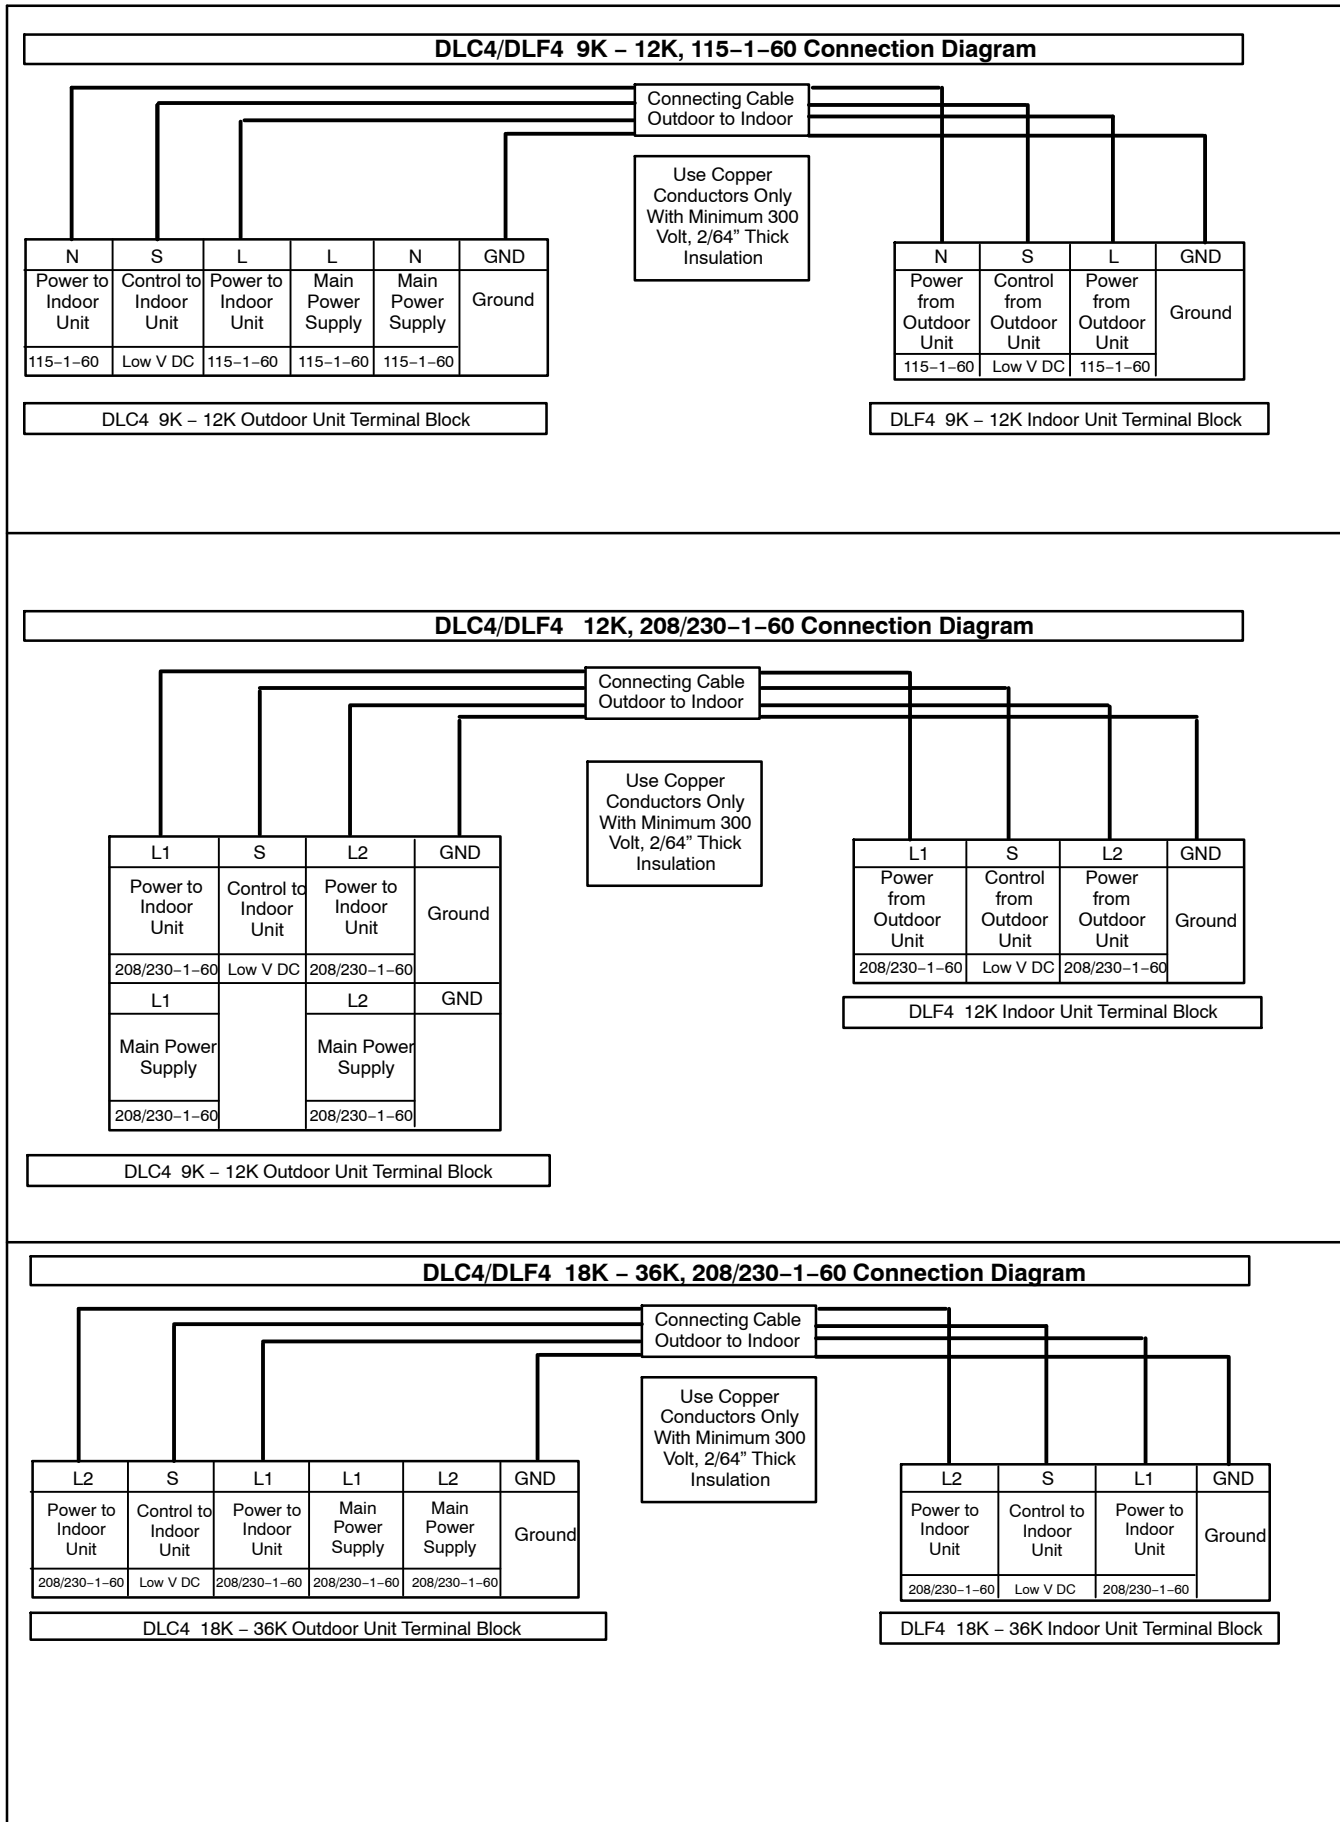

Figure 18 – Unit Wiring
8. Connect wiring from outdoor unit per connection diagram. See Figure 18.